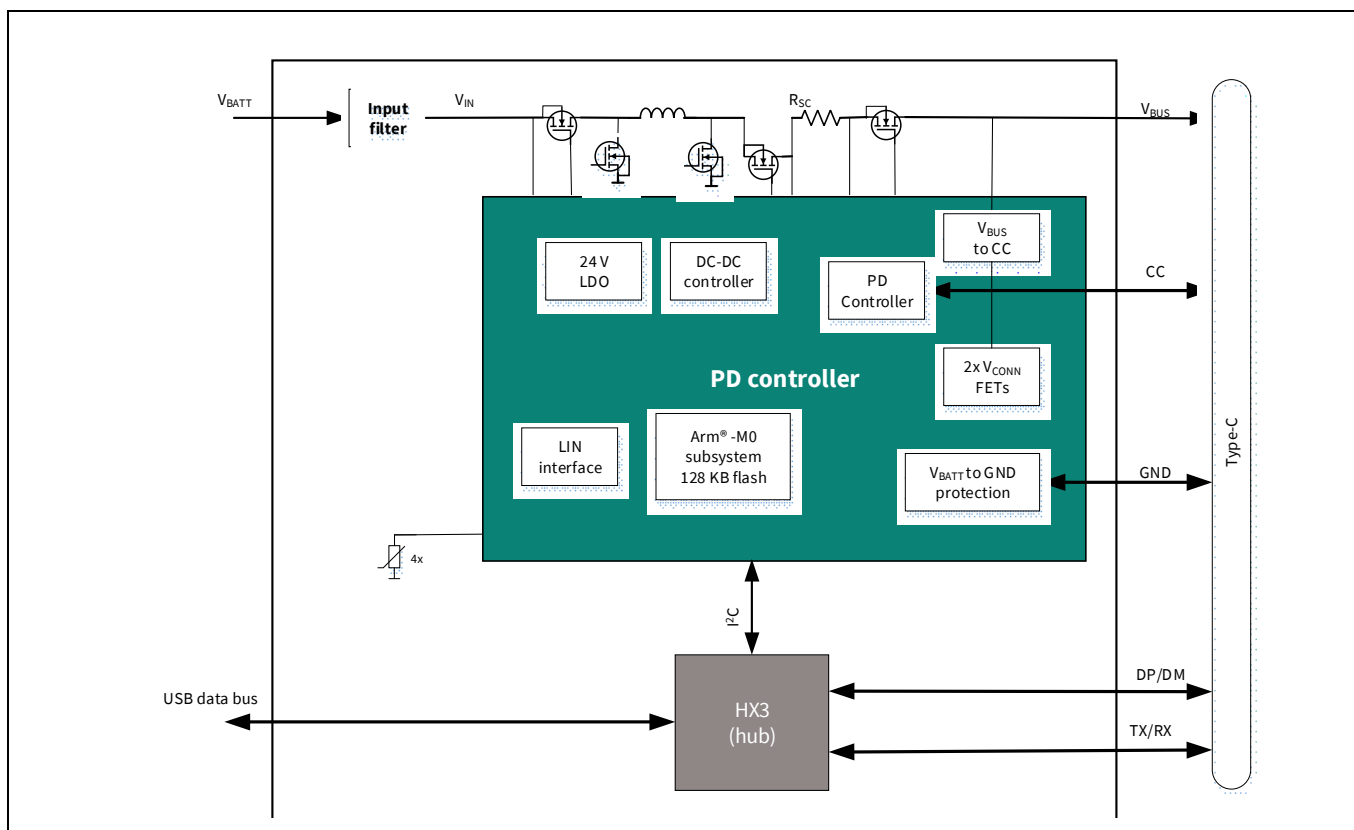

Figure 2 Automotive head unit application
The automotive infotainment applications as shown in **Figure 2**.
EZ-USB™ HX3 Automotive with Power Delivery (PD) **Figure 2** illustrates the overview of Automotive head unit application with HX3 hub and Infineon PD (Power Delivery) controller. HX3 can be used for 2 to 4 downstream ports with data and various charging protocols.
The Shared Link mode requires a separate VBUS control for the removable USB 2.0 device and the embedded SS device. **Figure 2** shows the VBUS control implementation.